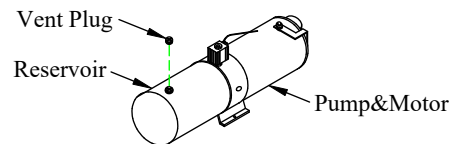

Figure 15: Vent plug.
- (1) Lower mounting kit
7. **Install** the vent plug provided into the pump reservoir (Figure 15).